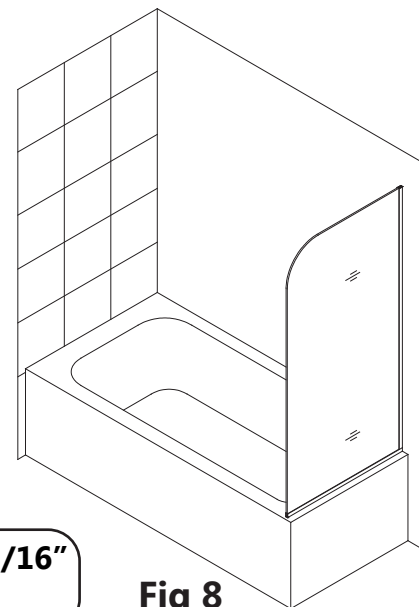

Fig 8
**NOTE:** Use **Parts Diagram "B"** for the **RT panel assembly and installation (Fig 8)**